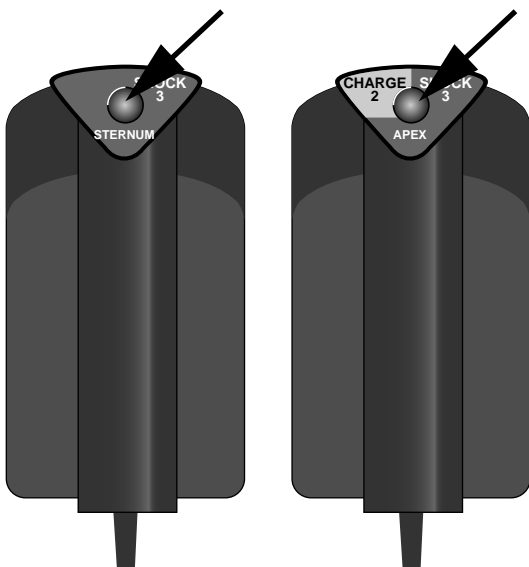
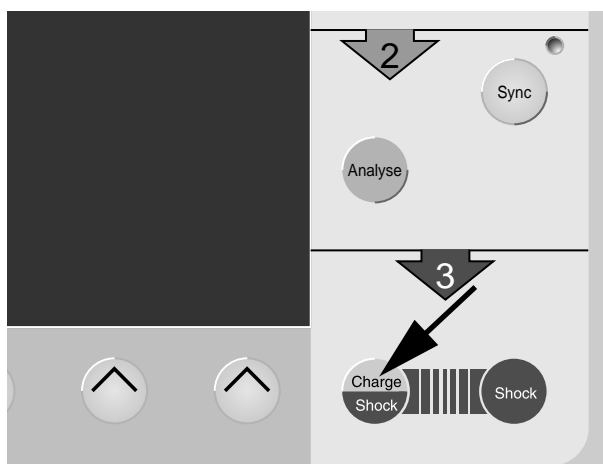

Figure 15-5. Buttons to initiate defibrillator charging and to trigger the shock
Figure 15-6. Button to initiate defibrillator charging when adhesive or internal electrodes are connected
- Initiate defibrillator charging by pressing the **Charge/Shock** button on the right paddle (Figure 15-5), or by pressing  on the control panel (Figure 15-6) when using adhesive pads.